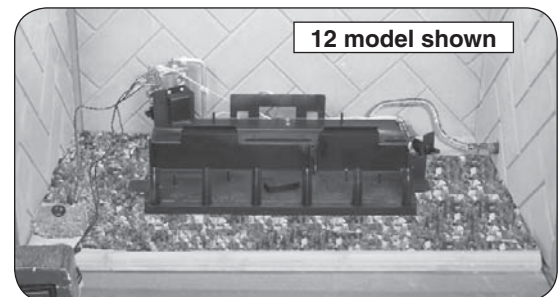

Fig. 21-5 Place lava granules
1. Spread the supplied lava granules on the floor of the fireplace; around the front and sides of the burner system (see Fig. 21-5). The lava granules may be placed around the wood chip and remote receiver (as applicable). Leave the front and top of the components clear for control access.